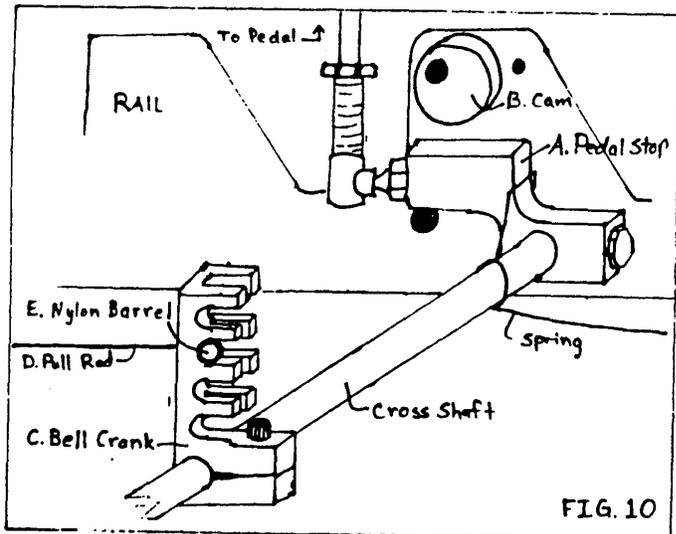

FIG. 10
3. If you have a tuner, you can actually determine the point of your longest change where (E) is too tight against (C), fig.10, and will affect your open note; then turn your pull rod clockwise until the tuner shows the open note is deviating from its original pitch, then back off 1-1/2 to 2 turns.
5. Set cam (B) by tightening it to the rail at the point where your longest pull is, just past the desired note when (A) stops against (B).